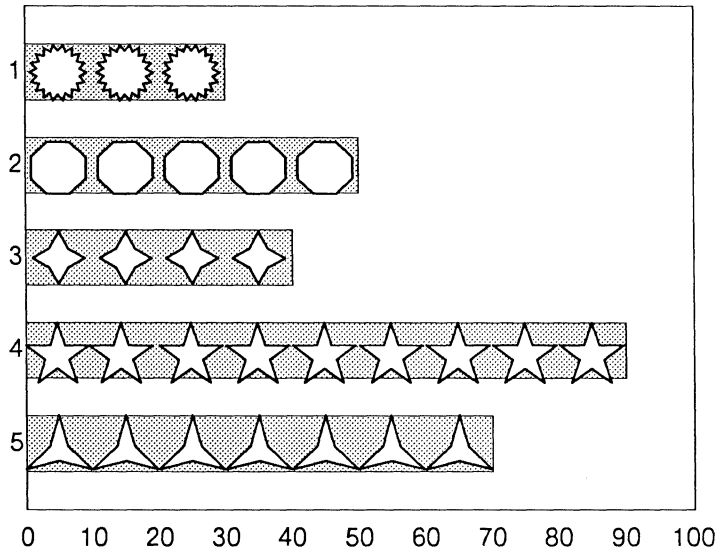

Figure 29-30. Chart with shapes on top of bars
- ✓ With **GridAlign** and **Gravity off**, size each shape diagonally, duplicate it, and arrange the shapes over the bars (Figure 29-30).